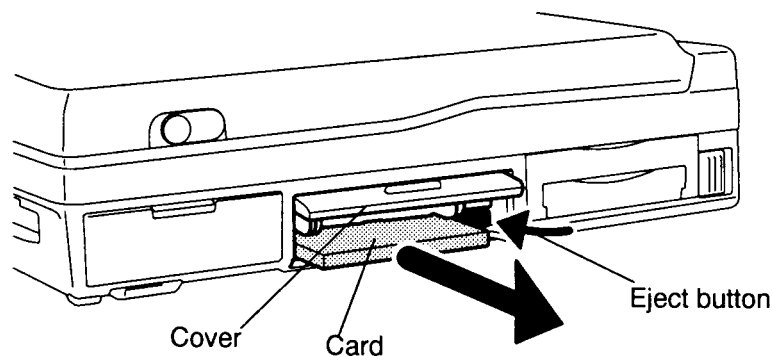

Figure 4-4 Removing the card from PCMCIA card slot 2
The T4850CT has two PCMCIA slots: one for a card up to 5.0 mm (slot 2) and one for a card up to 16 mm (slot 1). To remove optional PCMCIA cards, follow the steps below and refer to Figures 4-4 through 4-6.
4. Push the **eject button** to pop the card slightly out, then grasp the card and pull it completely out (Figure 4-4).
To install an optional PCMCIA card in the T4850CT, follow the steps below and refer to Figures 4-4 through 4-6.
1. To install a PCMCIA card into PCMCIA card slot 2, carefully insert the card, making sure the card is right side up and the contact surface is inserted first (Figure 4-4).